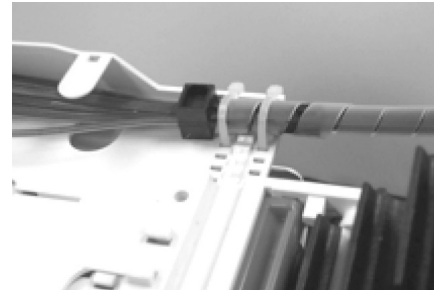

Figure 3
7. Secure prepared ribbon bundles to the splice tray with tie wraps (Figure 3). Both 24- and 12-fiber ribbons should be oriented vertically when secured to the splice tray. Rotate the ribbon holder accordingly.